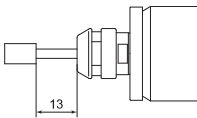

Fig. 10
- ① The proper surface speed for general grindstones is 600-1,800m/min.
- ② Do not exceed 13mm of overhang for mounted grindstones as shown in Fig. 10. If the overhang must exceed 13mm, reduce the motor speed in accordance with table 2.
- ③ Dress the grindstone prior to use.
- ④ Do not use cutting tools with bent or broken shanks, cracks or excessive run-out.
- ⑤ For grinding, the maximum depth of cut should not exceed 0.01mm radially or axially. Reciprocate the tool several times after each pass to eliminate tool pressure.
- ⑥ Always operate tools within the allowable recommended speed of the tools. Use of a tool outside of the allowable speed of the tools could cause damage to the spindle and injury to the operator.
- ⑦ Keep the tool shank and collet chuck clean. If contaminants are left in the collet chuck or chuck nut, excessive run-out will cause damage to the tool and or spindle.
- ⑧ Do not strike or disassemble the spindle.
- ⑨ Please set the tools to minimize the overhang amount. 13mm is the maximum amount of overhang to maintain high accuracy and safety.